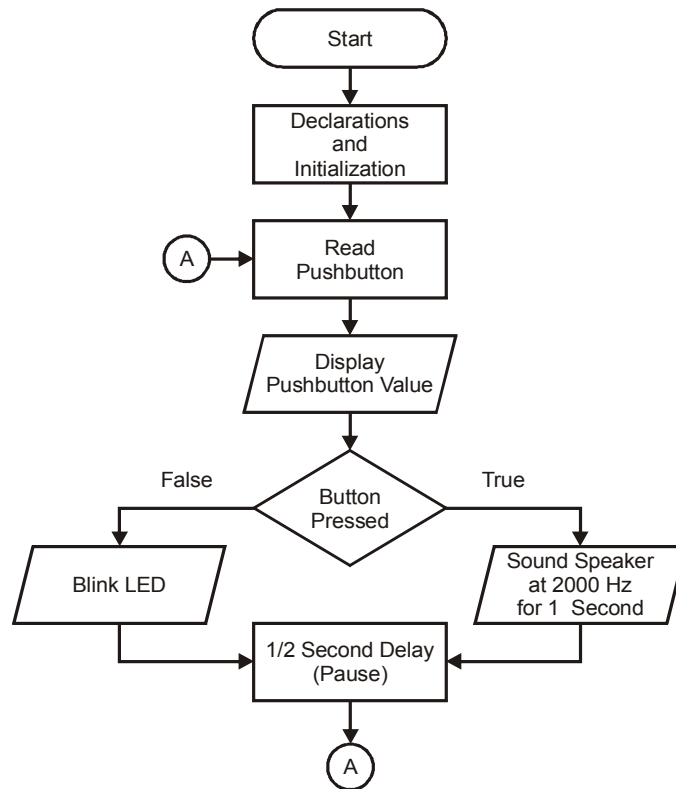

Figure 1-8
- ✓ Figure 1-8 is a flowchart that requires different code depending on whether the button is pressed or not. Modify `ConditionalLEDBlink.bs2` to match the flowchart's operation.